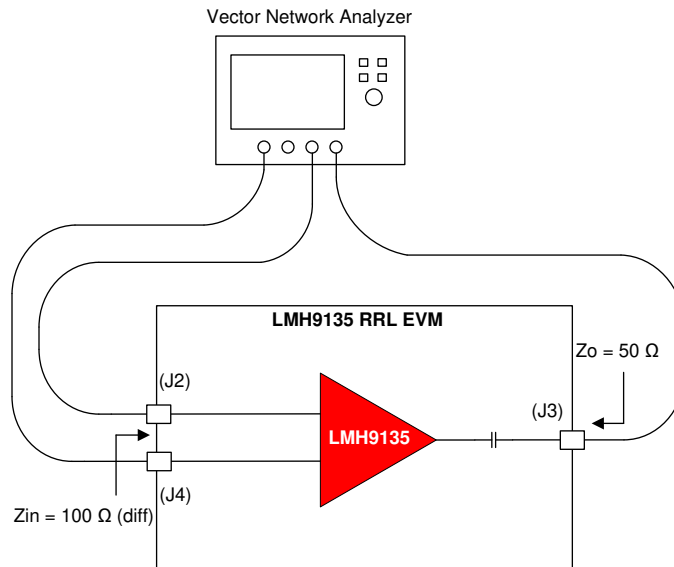

**Figure 3-1. Single-Tone Setup for Gain and Output P1dB (1-dB Compression Point)**
| Figure 3-1. Single-Tone Setup for Gain and Output P1dB (1-dB Compression Point)..... | 9  |
1. The input to the EVM is differential. Differential signal is generated from the single-ended output of the signal generator using an external passive balun such as shown in Figure 3-1. Use of at least 3-dB attenuator pads are recommended at the differential ports of the balun for better matching with the board.
4. When measuring the EVM for single-tone distortion products, TI recommends using an RF band pass filter (not shown in Figure 3-1) between the signal source and the balun.